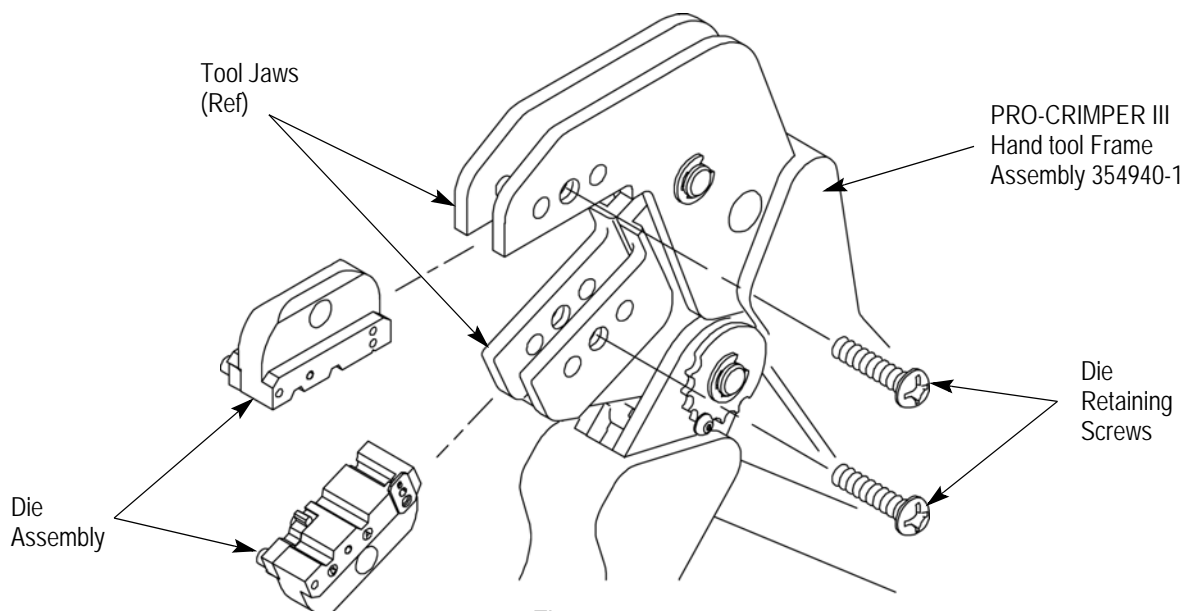

Figure 2
2. Insert the dies into the tool jaws as shown in Figure 2, and align the retaining holes in each die with the associated holes in the tool frame.